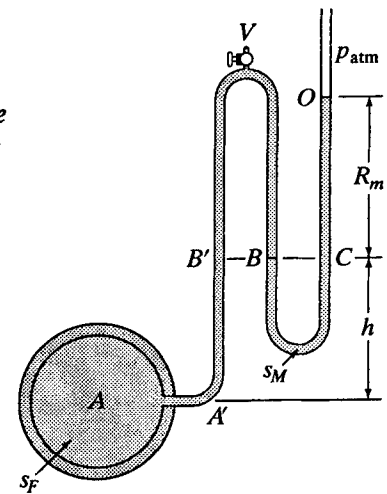

Figure 3.11
3.10 The diameter of tube C in Fig. 3.11 is d_1 , and that of tube B is d_2 . Let z_0 be the elevation of the mercury above A when both mercury columns are at the same level. R is the distance the right-hand column of mercury rises above z_0 when the fluid in A is under pressure. Let γ' be the specific weight of the mercury (or any other measuring fluid), while γ is the specific weight of the fluid in A and the connecting tubing. Prove that $p_A = \gamma z_0 + [\gamma' + (\gamma' - \gamma)(d_1/d_2)^2]R = M + NR$ where M and N are constants. Note that this equation involves only one variable, which is the reading R on the scale for column C. It also shows the significance of having d_2 large compared with d_1 .